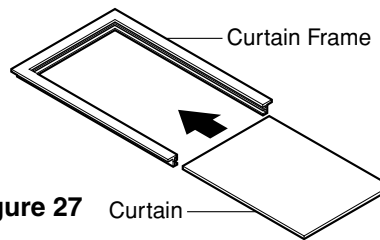

Figure 27 Curtain
8. Slide Curtain into Curtain Frame. Slide Curtain Frame assembly into side Guides of the Air Conditioner cabinet. Make sure Curtain is firmly enclosed on all sides by the Frame. (See Figure 27)